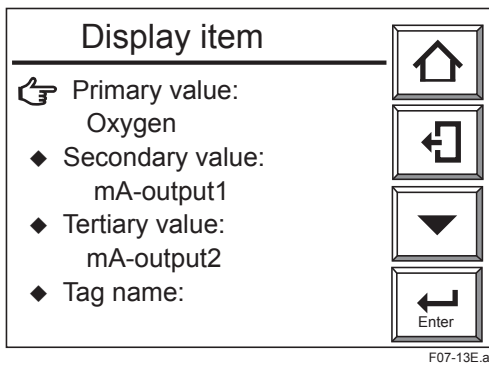
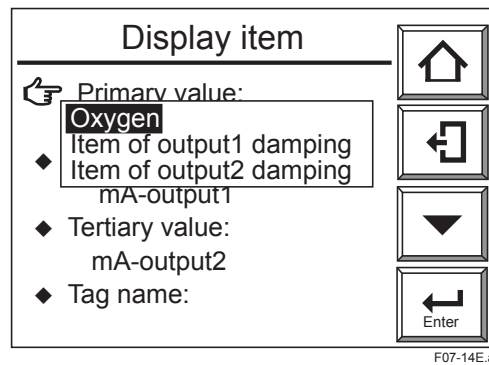

Figure 7.13 “Display Item” Display
Figure 7.14 Display Item Selection
- (3) In the above Display setup display, select the “Display item”. The Display item display (Figure 7.13) then appears. From this display, select the “Primary value” and press the [Enter] key to display the “Display item” selection display (Figure 7.14).
- (4) Select the Secondary and Tertiary values in the same manner as in the steps above.
- (5) Consult Table 7.1, Display Items, enabling the selection of display items in individual display areas.